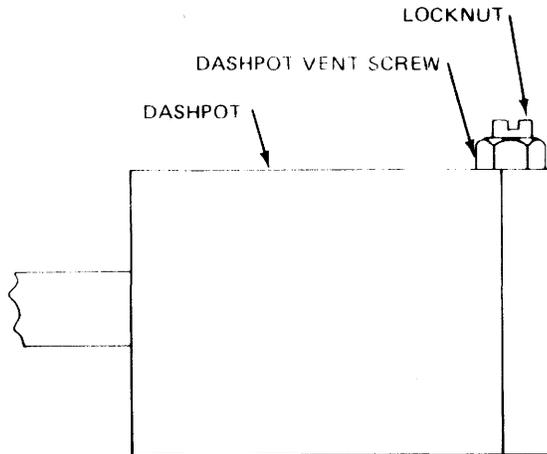

Figure 6-7. Dashpot Adjustment (Front View).
6-10. Keyboard Dashpot Adjustment. To adjust keyboard dashpot, perform normal turn-on procedure (paragraph 6-6), see figure 6-7, and proceed as follows:
2. Adjust dashpot to correct excessively hard carriage return (see figure 6-7).
- a. Loosen dashpot vent screw locknut (see figure 6-7).